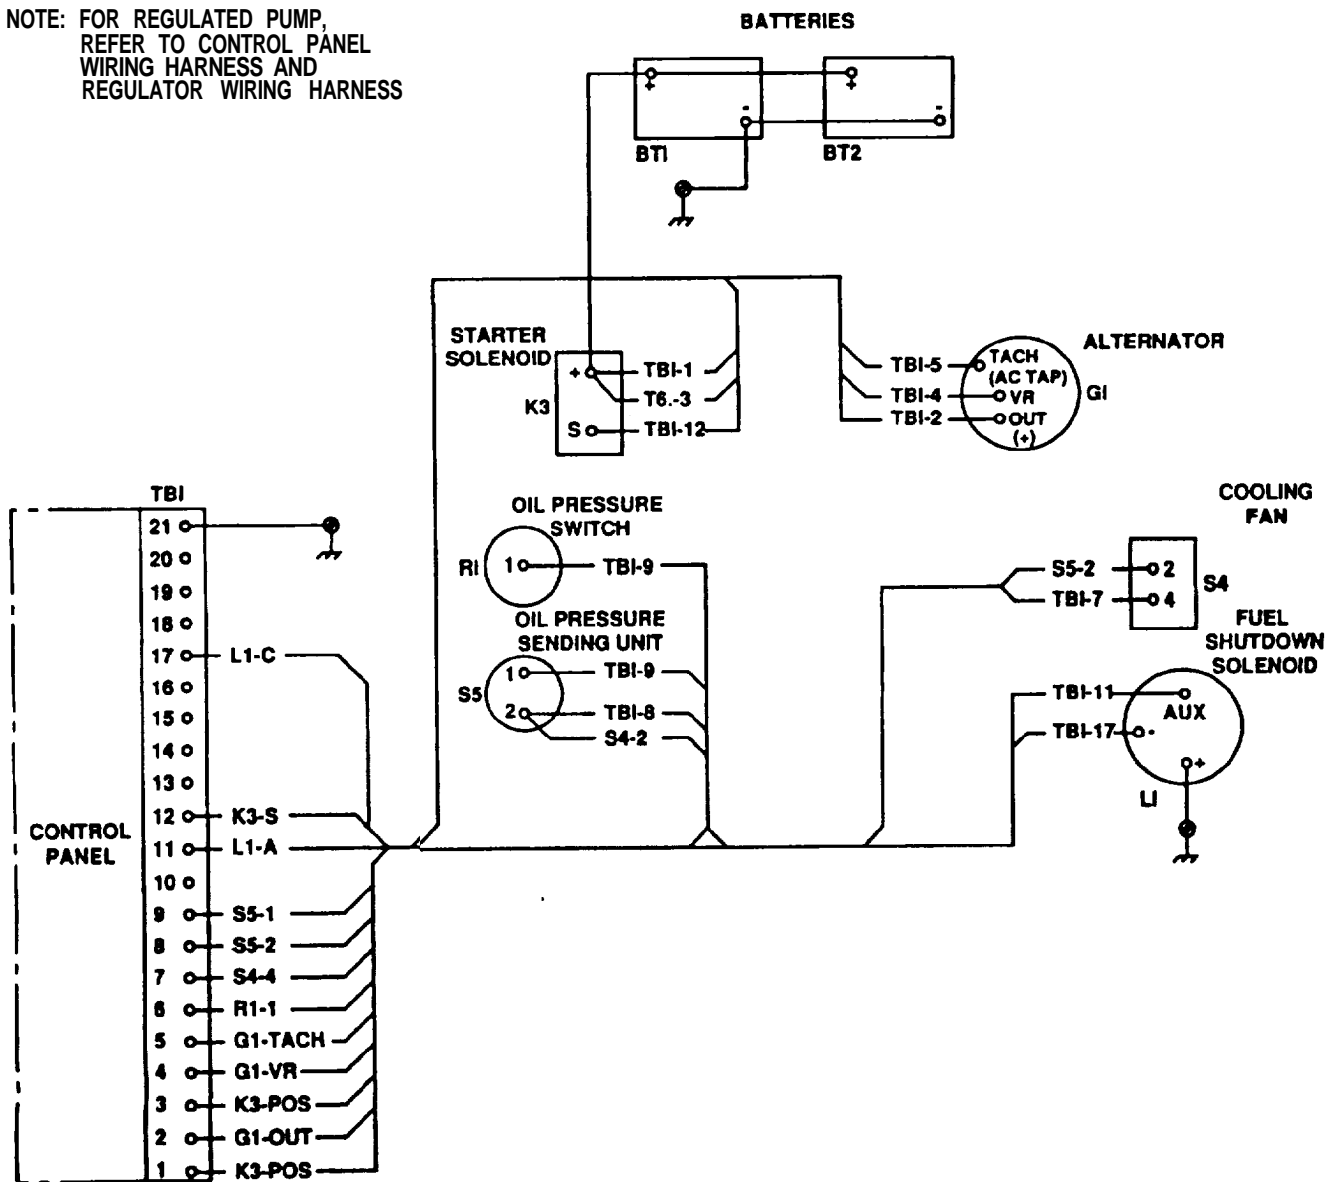
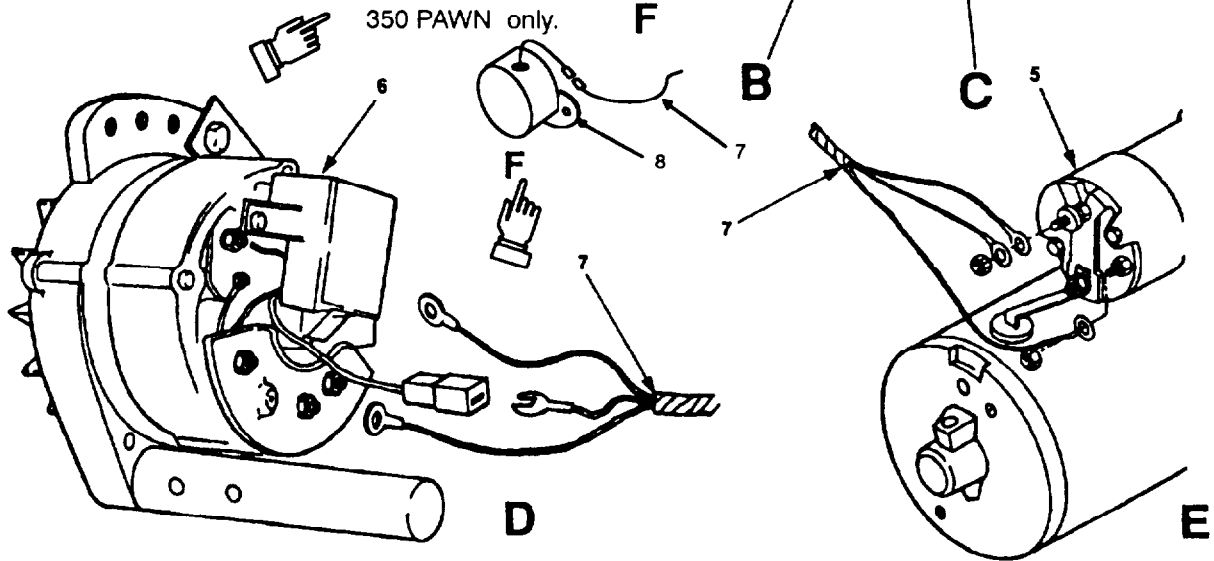

Figure 4-39.1 Wiring Harness Testing (Models 350 PAW and W-87012). (sheet 2)
Figure 4-40. Wiring Harness Replacement (All Models).
- a. Disconnect and tag two lines (figure 4-39.1, sheet 1, view D, 1 and 2) from cold start reservoir.
- b. Remove screws (view C, 3), lockwashers (4), washer (5) and cold weather start kit (6).
- c. Remove remaining four screws (view A, 3), lockwasher (4) and washers (5) that secure control panel cover (7).
- d. Remove control panel (7).
- e. Using multimeter set for continuity, refer to figure 4-39.1, sheet 2 and check continuity of wires.
- h. Install cold weather start kit (view C, sheet 1, 6) using washers (5), lockwashers (4) and screws (3).
- i. Install remaining washers (view A, 5), lockwashers (4) and screws (3).
■ Figure 4-39.1. Wiring Harness Testing (Models 350 PAW and W-87012). (sheet 1 of 2)
- a. On models 350 PAW and W-87012 only, disconnect and tag two lines (figure 4-39.1, sheet 1, view D, 1 and 2) from cold start reservoir.
- b. On models 350 PAW and W-87012 only, remove screws (view C, 3), lockwashers (4), washers (5) and cold weather start kit (6).
- c. Remove remaining screws (view A, 3), lockwasher (4) and washers (5) that secure control panel cover (7).
- d. Remove control panel cover (7).
- (1) Wires connected to terminal board (view B, 8).
- (2) Wires connected to oil sending unit (figure 4-40, view A, 1).